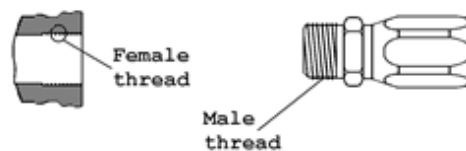

FIG 15.
- i. The thread seal to metal seal. (Fig 15)